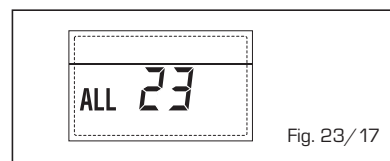

Fig. 23/17
**- ANOMALIA SONDA COLETOR SOLAR (S1) "ALL 24"** (fig. 23/18)